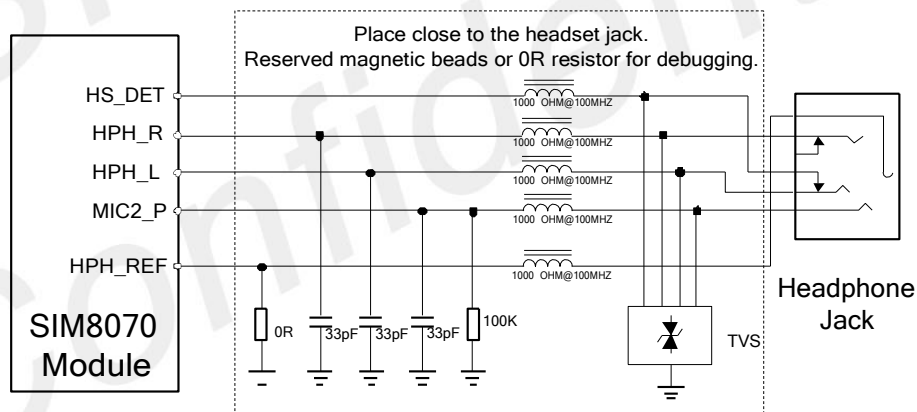

Figure 27: Headphone Reference Design
1. The reference design for headphone in the Figure 27 is working actively high. The software detection mode configuration changes if the customers are picking an audio working actively low.